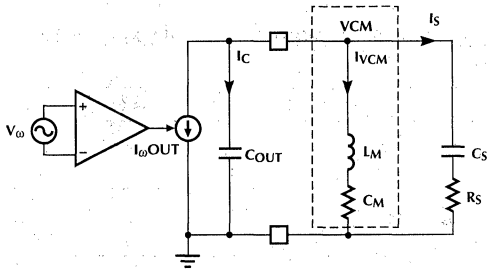

Figure 2. AC Equivalent Circuit for Current Amplifier, Voice Coil Motor (VCM) and Snubber.
2. An RC compensation network should be used to cancel the zero presented to the output by the L/R of the voice coil motor as shown in figure 2.
Figure 2 shows the equivalent AC circuit for the current amplifier.
Tuning the current loop response can be easily done simulating the network in figure 2 with a computer simulator (such as SPICE).